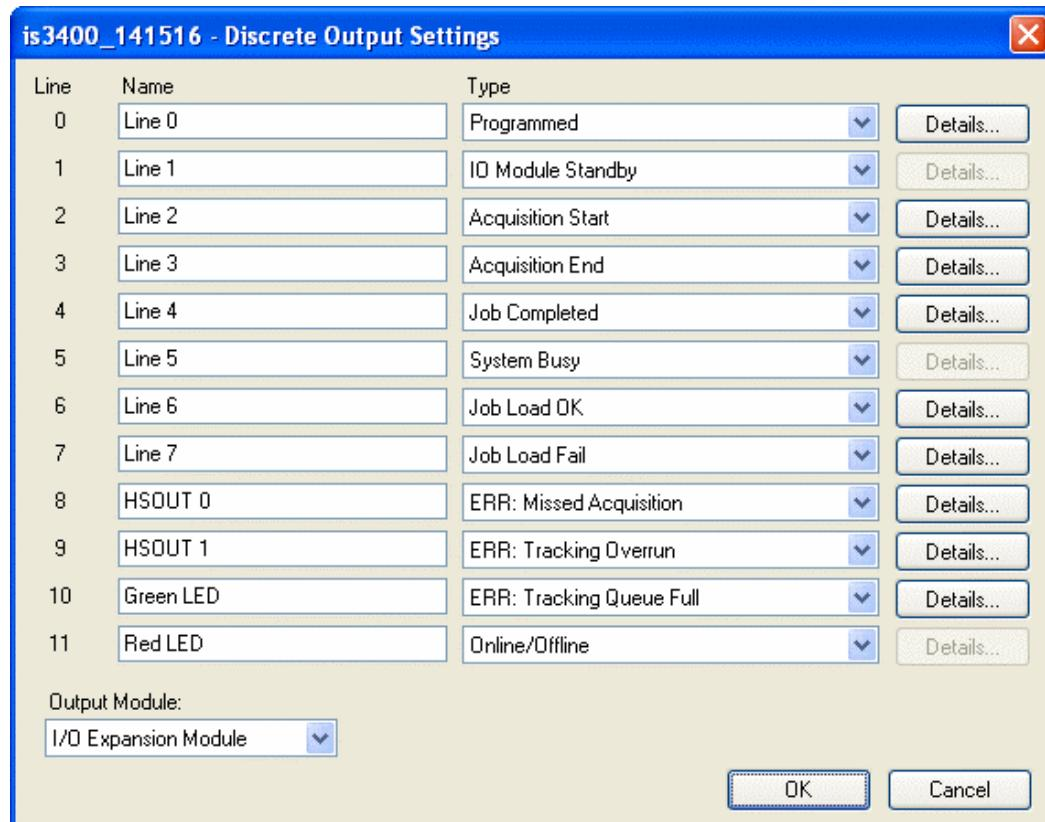

Figure B-2: Discrete Output Settings Dialog
4. Open the Output Module drop-down list at the bottom left of the window (Figure B-2) and select I/O Expansion Module. The Discrete Output window will automatically reconfigure to correspond to the I/O Expansion Module.